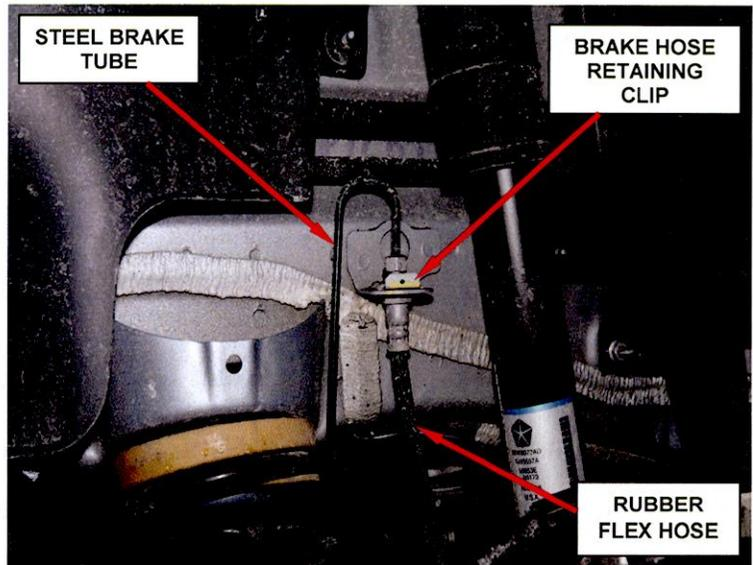

Figure 14 – Rubber Flex Hose Connection
2. Disconnect the steel brake tube from the rubber flex hose at the frame rail (Figure 14).
3. Remove and save the rubber flex hose retaining clip at the frame rail bracket (Figure 14).